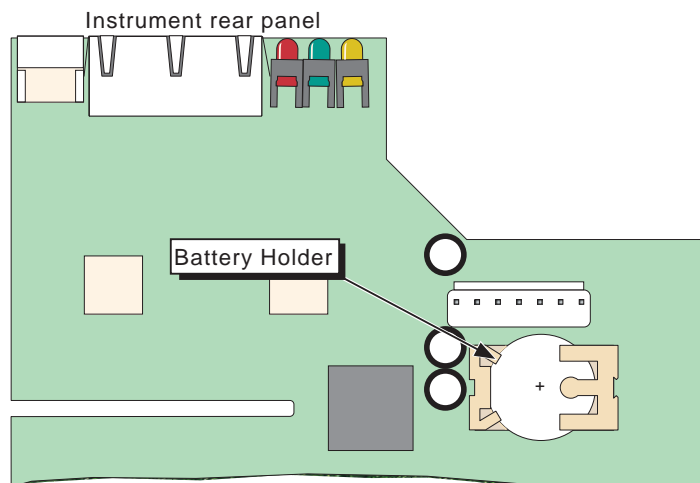
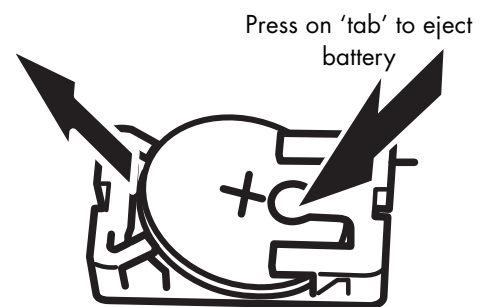

Figure 11.3b Battery location
Figure 11.3c Coin cell eject
3. The power supply unit can now be rotated out of the chassis, giving access to the battery, located on the interconnection PCB (figure 11.3b). Figure 11.3c shows how to eject coin cells.